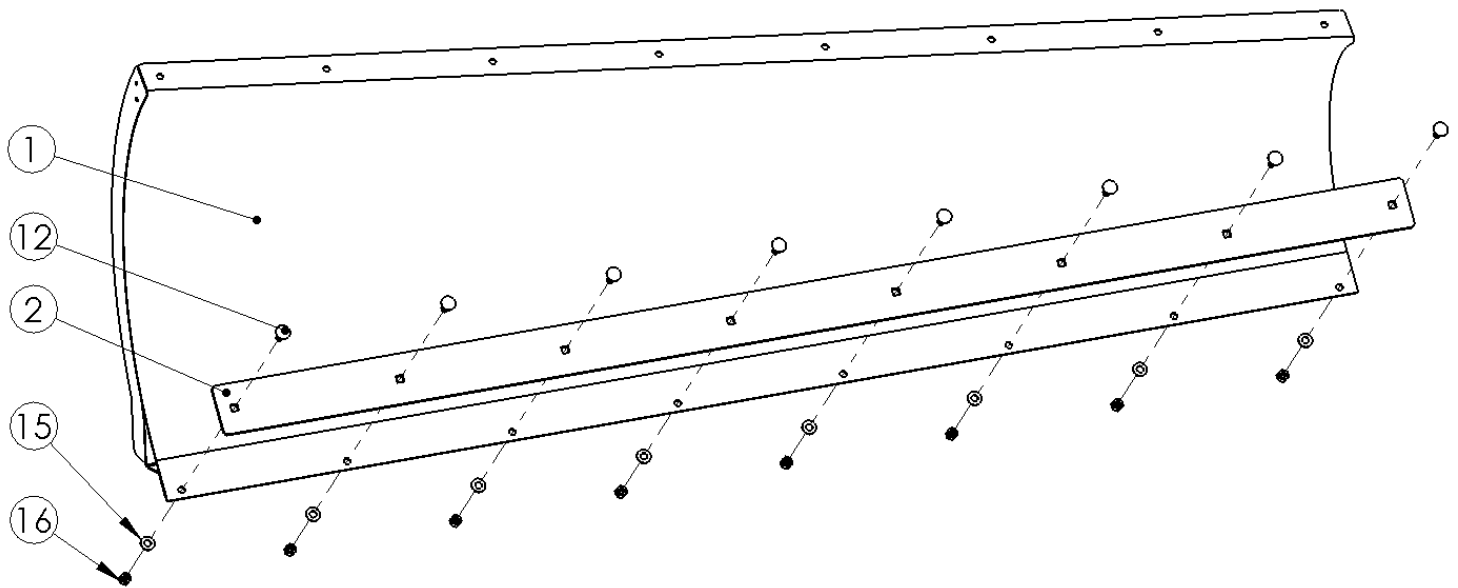

Figure 1
- 1) Install the 72" Wear Bar to the 72" Plow Blade as shown in Figure 1.